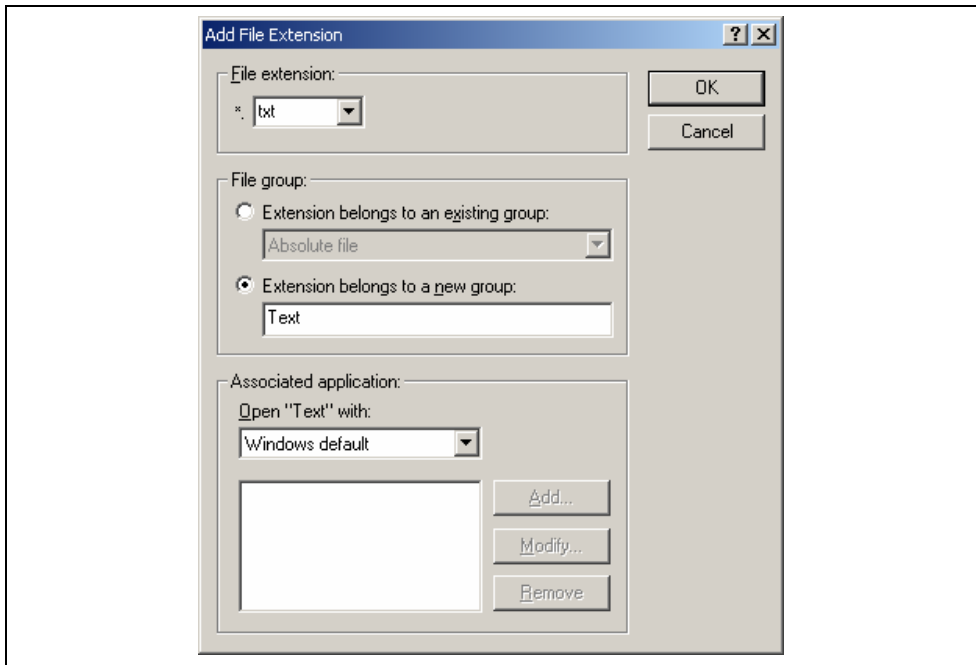

Figure 2.9: Add File Extension Dialog (New Group)
2. Click the “Add...” button. The “Add File Extension” dialog will be displayed (figure 2.9).